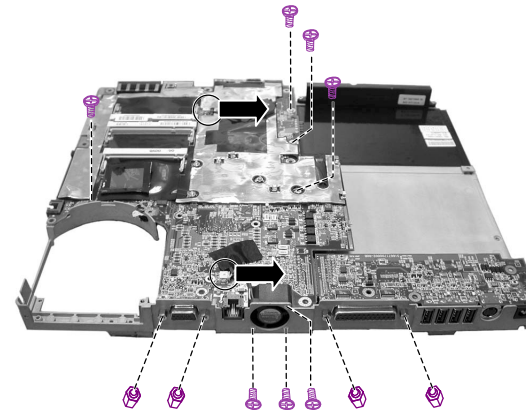

Figure 2-26 Remove the system board
8. Remove seven screws and four hex nuts fastening the system board and disconnect one cable . Now you can remove the system board. (Figure 2-26)